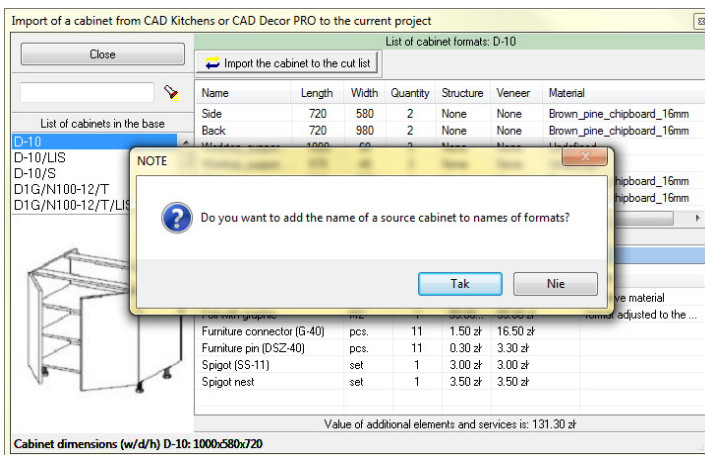

Fig. 110 – importing a cabinet to CAD Cut
- the next step is to click the **Import the cabinet to the cut list** button and deciding, whether the source cabinet code is to be added to the names of the formats (Fig. 110 on the next page);